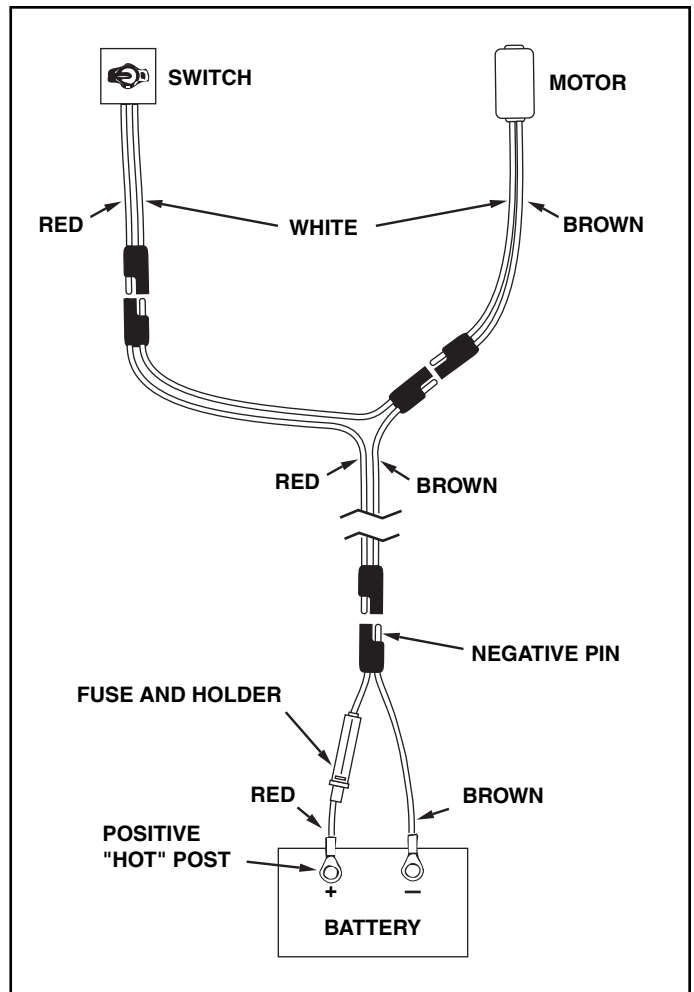

FIGURE 10
18. Connect the short (fused) wire harness to the vehicle battery by connecting the red wire to the positive post and the brown wire to the negative post on the battery. The wire harness may be left permanently attached to the battery. See figure 10.
19. Connect the long wire harness to the spreader by connecting the red and white wires to the switch and the brown and white wires to the spreader motor. Refer to figure 10.
22. Move the flow control lever to the "ON" position. Flip the "ON-OFF" switch on and check that the motor runs clockwise. If it does not, refer to the wiring diagram in figure 10 and recheck the hookup.